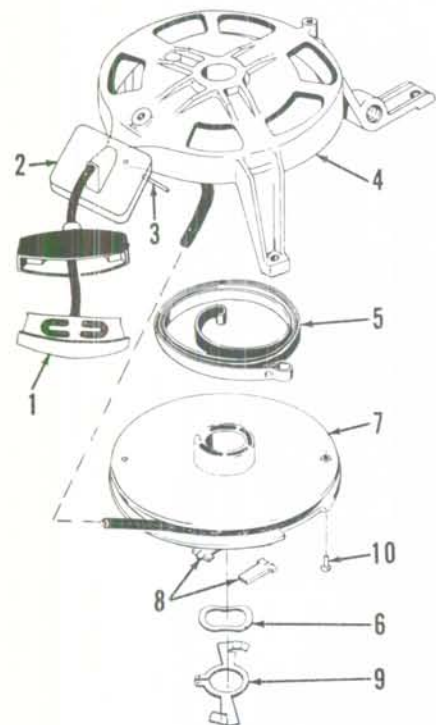

Fig. Mc5-16—Exploded view of recoil starter assembly.
Fig. Mc5-16 shows an exploded view of the recoil starter assembly. To renew the starter pawls (8) or friction spring (9), remove and invert the assembled starter on a bench. Remove friction spring (9) with snap ring pliers and withdraw the pawls.